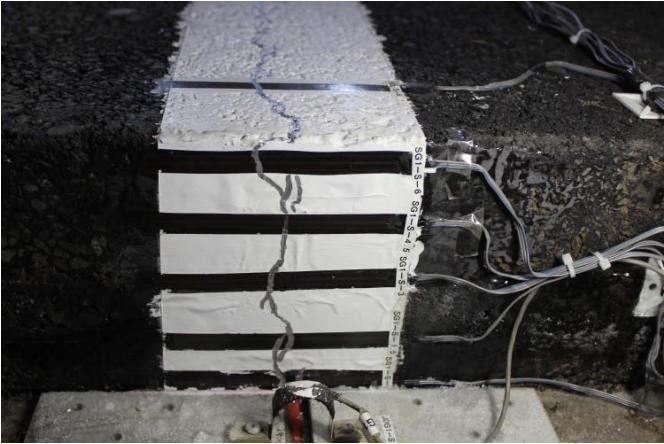

Figure 6. South inner vertical edge
- The South inner vertical edge is cracked, as shown in Figure 6.